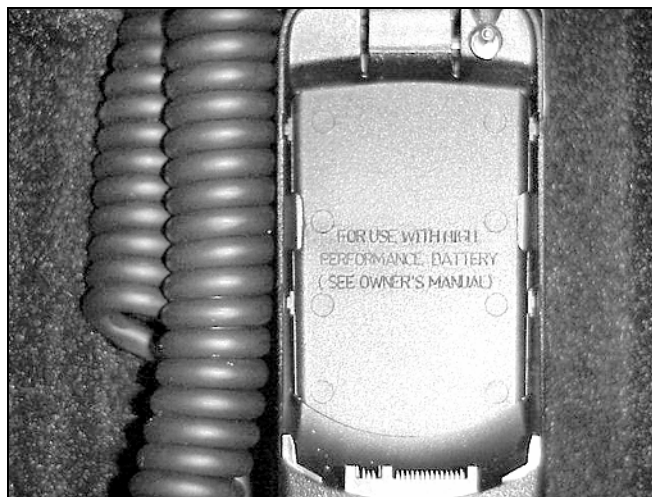

Figure 15
27. Install the battery insert plate marked "FOR USE WITH HIGH PERFORMANCE BATTERY" when using the high performance battery (800 mAh) with the telephone (Figure 15).
Note: The embossed text on the installed battery insert plate must face up as in Figure 15.